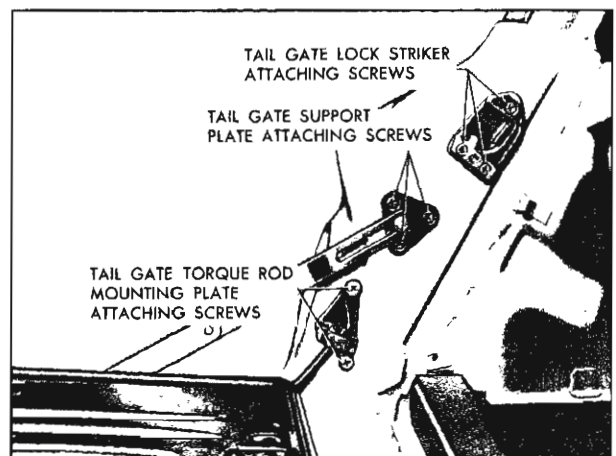

Fig. 81—Tail Gate Support and Torque Rod Attachment
6. Raise tail gate to approximately a vertical position to relieve torque from torque rod. Remove torque rod mounting plate attaching screws (fig. 81) from left body pillar and remove mounting plate.
2. Raise tail gate to almost a vertical position to relieve torque from torque rod. Remove torque rod mounting plate attaching screws from left body pillar and remove mounting plate (fig. 81).